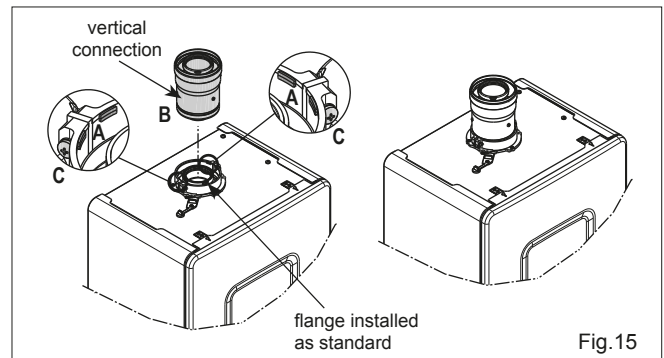

Fig. 15
NOTE - fig. 15: the appliance incorporates a 'click-fit' flue connection. Ensure that both screws 'C' on the 'click-fit' have been slacked off. Ensure that the connector is correctly aligned with the 'click-fit' and insert it into the 'click-fit' until it clicks into position (this is when the tabs at points 'A' are located in the groove of the vertical flue connector). Both screws (C) should now be tightened.